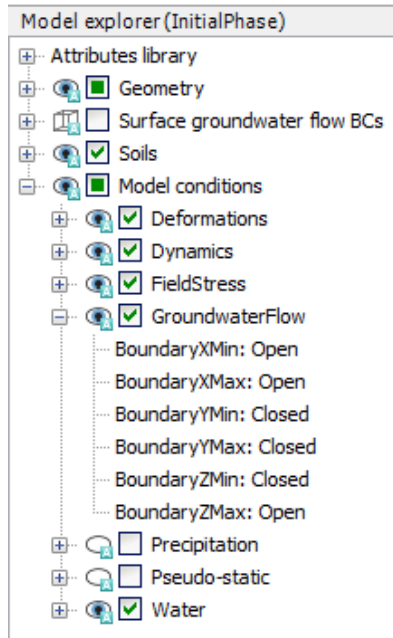

Figure 6.5 Boundary conditions for groundwater flow
- In the *GroundwaterFlow* subtree set *BoundaryYMin*, *BoundaryYMax* and *BoundaryZMin* to *Closed*. The remaining boundaries should be *Open* (Figure 6.5).